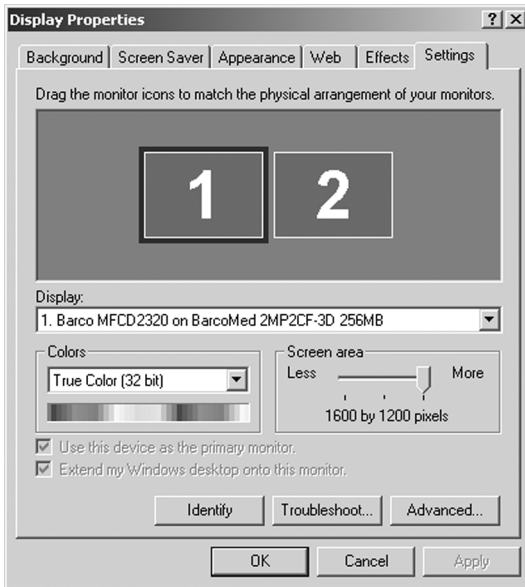

Figure 42: The Windows Display Properties Control Panel Settings Tab after the drivers have been installed and the resolution set .
**Note:** The system shown in figure 42 above is a dual-head, single BarcoMed 2MP2CP display controller. Your system may look different.